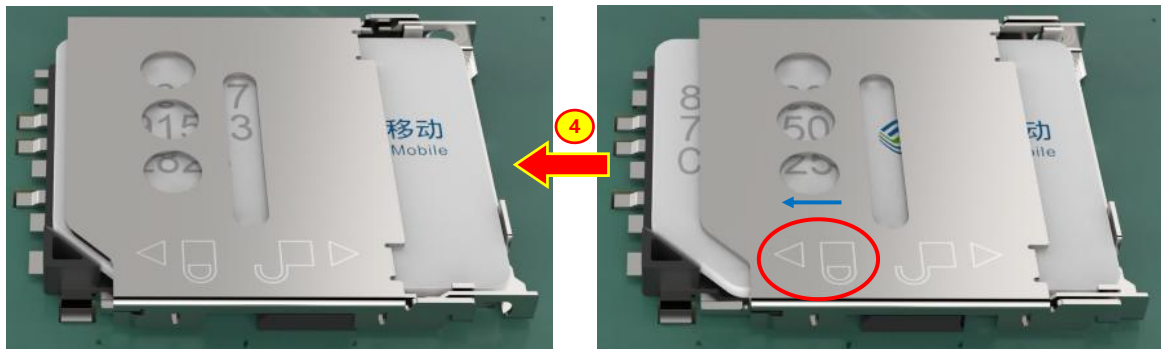

Figure 3-8: Slide the Upper Cover to the Locking Position
Step 4: Slide the upper cover to the lock position according to the direction of the locking symbol (See Figure 3-8).